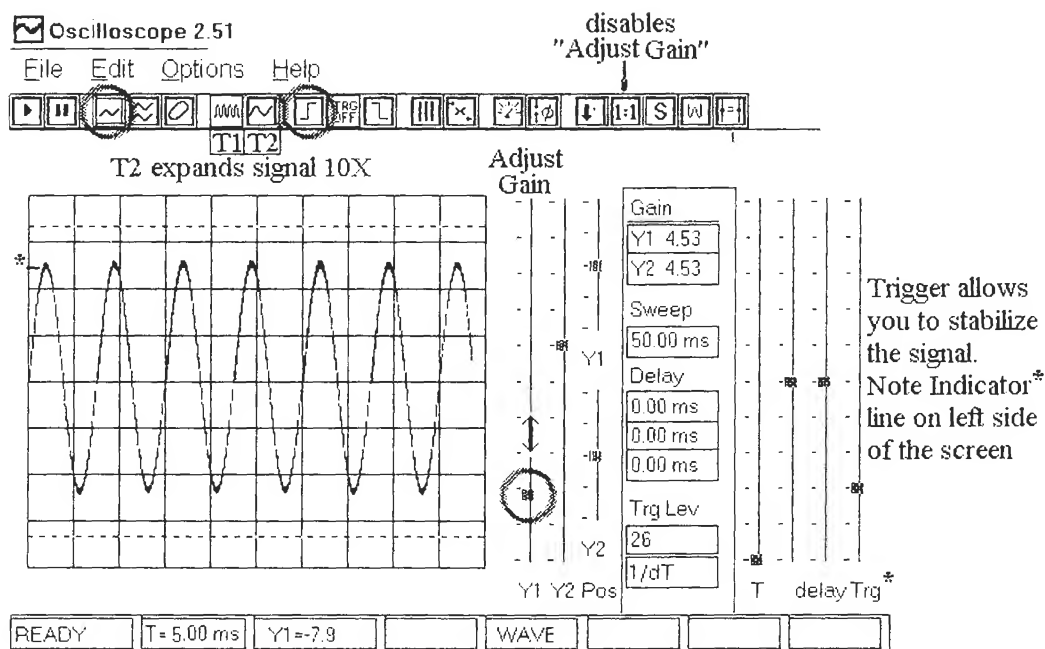

Figure L49-14
5. Figure L49-14 shows how to set up Winscope to see the tone signals on your computer.
- f. Be sure to adjust the settings by clicking those shown previously in Figure L49-14. Adjust the gain on Y1. When you move the “trigger” into place, the signal is stabilized.